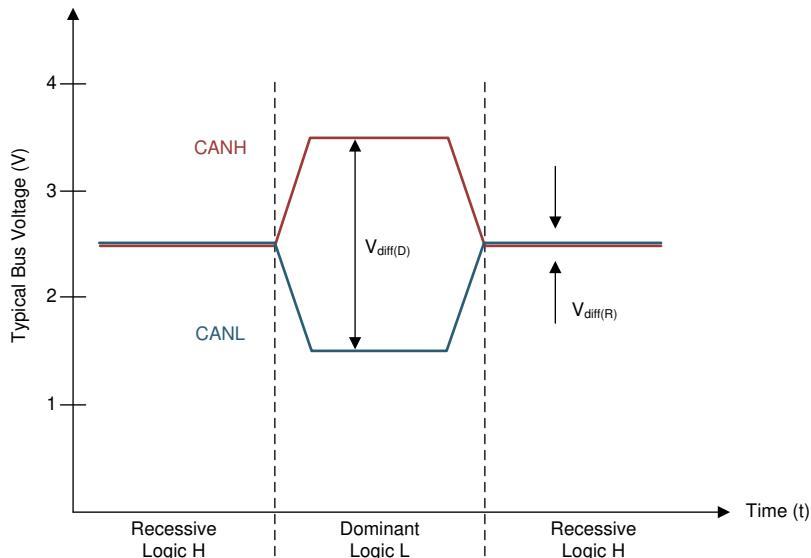
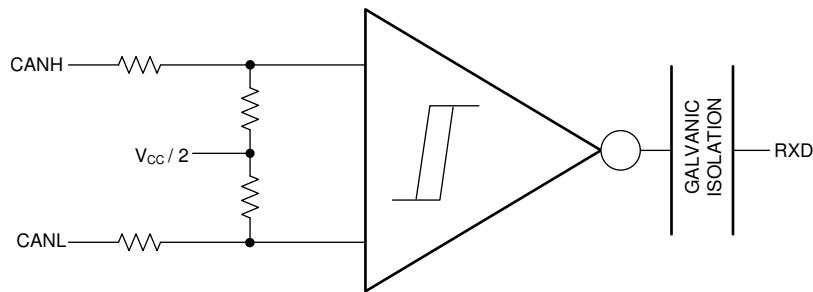

Figure 8-1. Bus States (Physical Bit Representation)
Figure 8-2. Simplified Recessive Common Mode Bias and Receiver
The CAN bus has two states during operation: *dominant* and *recessive*. A dominant bus state, equivalent to logic low, is when the bus is driven differentially by a driver. A recessive bus state is when the bus is biased to a common mode of  $V_{CC} / 2$  through the high-resistance internal input resistors of the receiver, equivalent to a logic high. The host microprocessor of the CAN node uses the TXD pin to drive the bus and receives data from the bus on the RXD pin. See Figure 8-1 and Figure 8-2.
- (1) H = high level, L = low level, Z = common mode (recessive) bias to  $V_{CC} / 2$ . See Figure 8-1 and Figure 8-2 for bus state and common mode bias information.